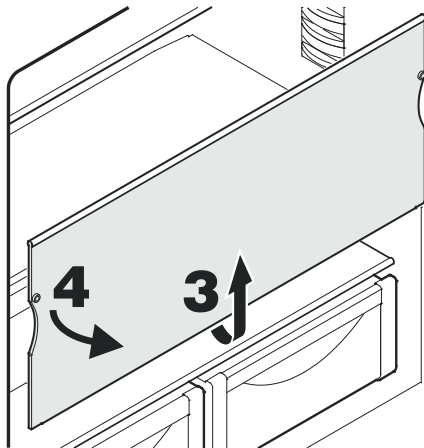

Figure 14
Removing the shelves - Figure 14
- Remove vegetable drawers as shown in **Figure 14**.